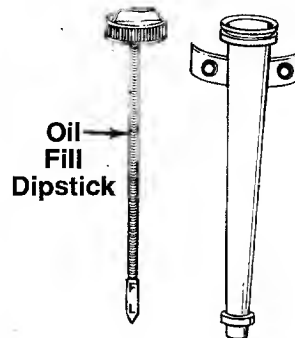

FIGURE 8.
- Fill engine with oil as follows. Remove oil fill dipstick. See figure 8. With air sweeper level, use a funnel to fill engine with oil to FULL mark on dipstick. Capacity is approximately 1-1/4 pints. Be careful not to overfill. Tilt air sweeper toward the left, then re-level. Check oil level. Refill to FULL mark on dipstick if necessary. Replace dipstick and tighten.
Your four-cycle engine will normally consume some oil—therefore, check engine oil level regularly approximately every five hours of operation and before each usage. Stop engine and wait several minutes before checking oil level. With engine level, the oil must be to FULL mark on dipstick (refer to figure 8). Change engine oil after the first five hours of operation, and every twenty-five hours thereafter.